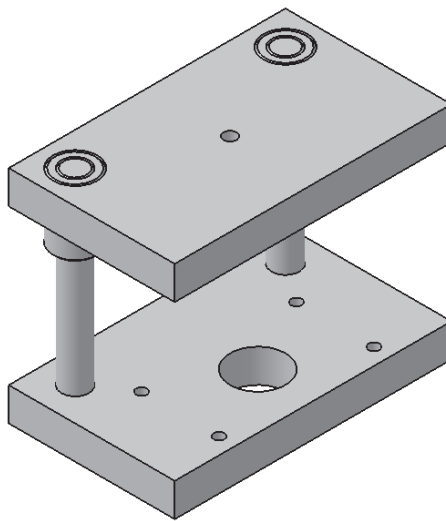

Figure 11-91 The final Press Tool Base assembly
5. Switch back to the **Assembly Design** workbench. The final assembly is shown in the Figure 11-91.